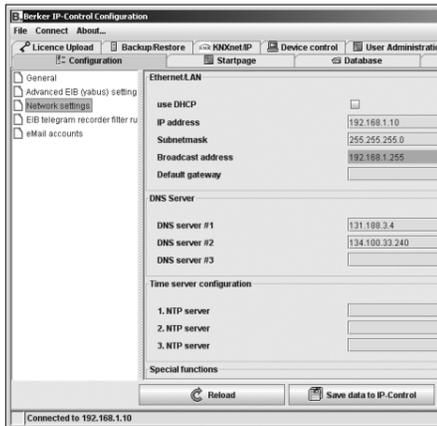

Figure 4: Network settings window
- Click on the **Network settings** menu item. A window is displayed showing the current settings (figure 4).